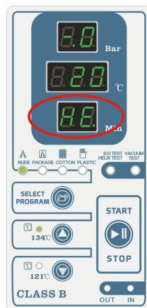

Fig.8.4-1
(1) **Heating coil preheating stage:** press the button “Select program” select the program the instruments which need be sterilization. then press the button “START/STOP”, the “operation display window” show “HE”, the “pressure display window” show “-0.0”, the “temperature display window” show “temperature in chamber”. (Fig.8.4-1)